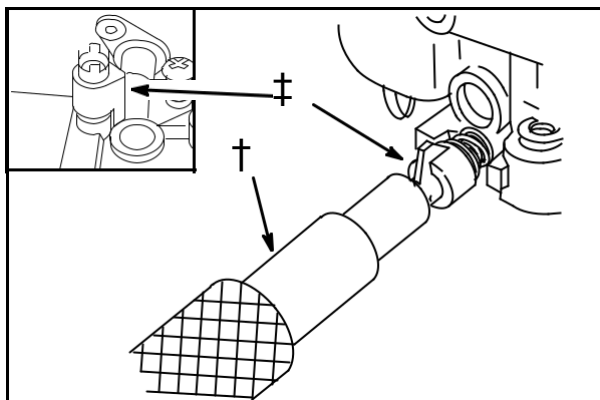

Fig. 13
Position limiter cap (7) so that stop(s) on limiter cap are at mid point between stop(s) on carburetor body, **Fig. 13**.